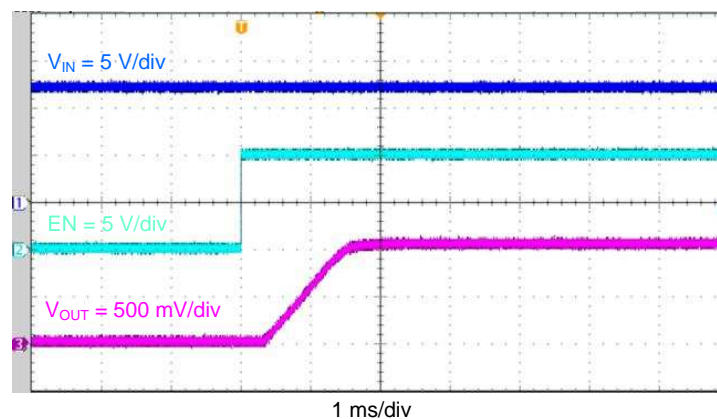

Figure 10. TPS565208 Start-Up Relative to EN
The TPS565208EVM-858 start-up waveform relative to enable (EN) is shown in Figure 10. Load = 1 Ω resistive.